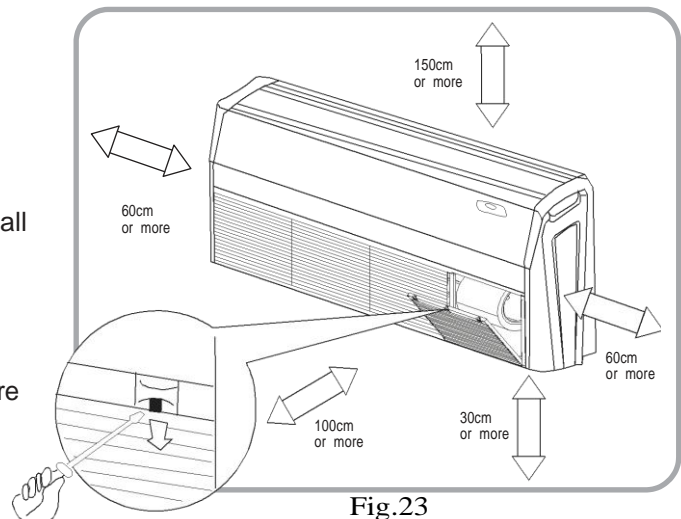

Fig.23
- The space around the unit is adequate for ventilation (Refer to Fig.23)